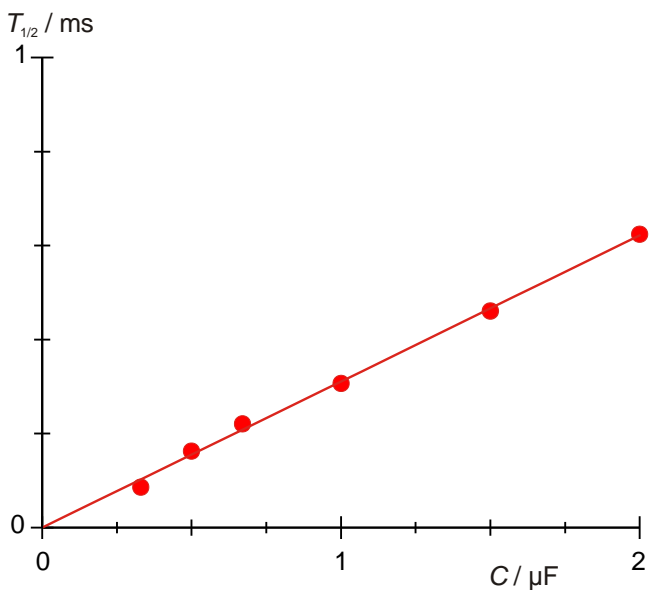

Fig. 6: Half-life  $T_{1/2}$  as a function of capacitance  $C$ .
- Plot the “half-way” values  $T_{1/2}$  from Table 4 against the capacitance  $C$  on a graph and join up the points with a straight line through the origin (Fig. 6).
- To verify equation (3), determine the resistance  $R$  from the gradient of the line  $m_R$ .